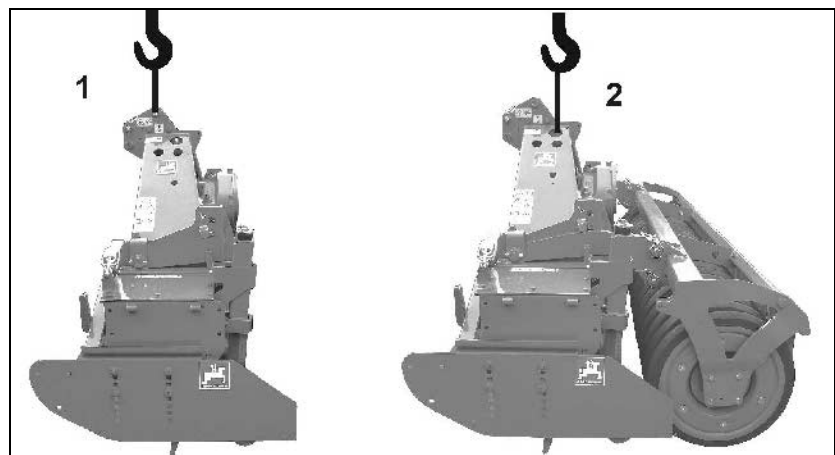

Fig. 3
- For loading the **KG without roller** use a crane hook as illustrated in Fig. 3/1.
- For loading the **KG with roller** use a crane hook as illustrated in Fig. 3/2.